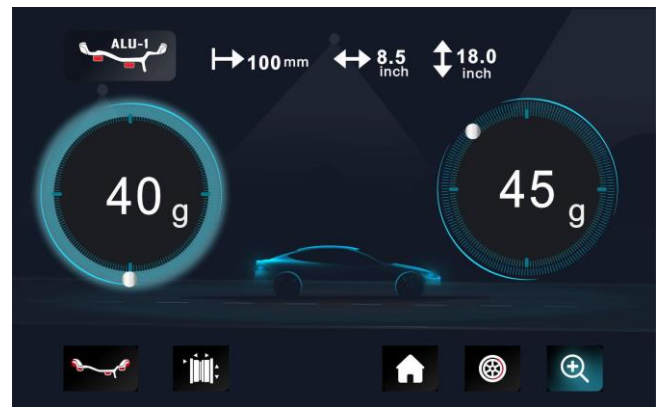

Fig. 7
4.2.6. Press  until the left LED fully lights up, indicating the correct angular position on where to mount the counterweights.. Clip weight on the 6 o'clock position (Fig. 7)